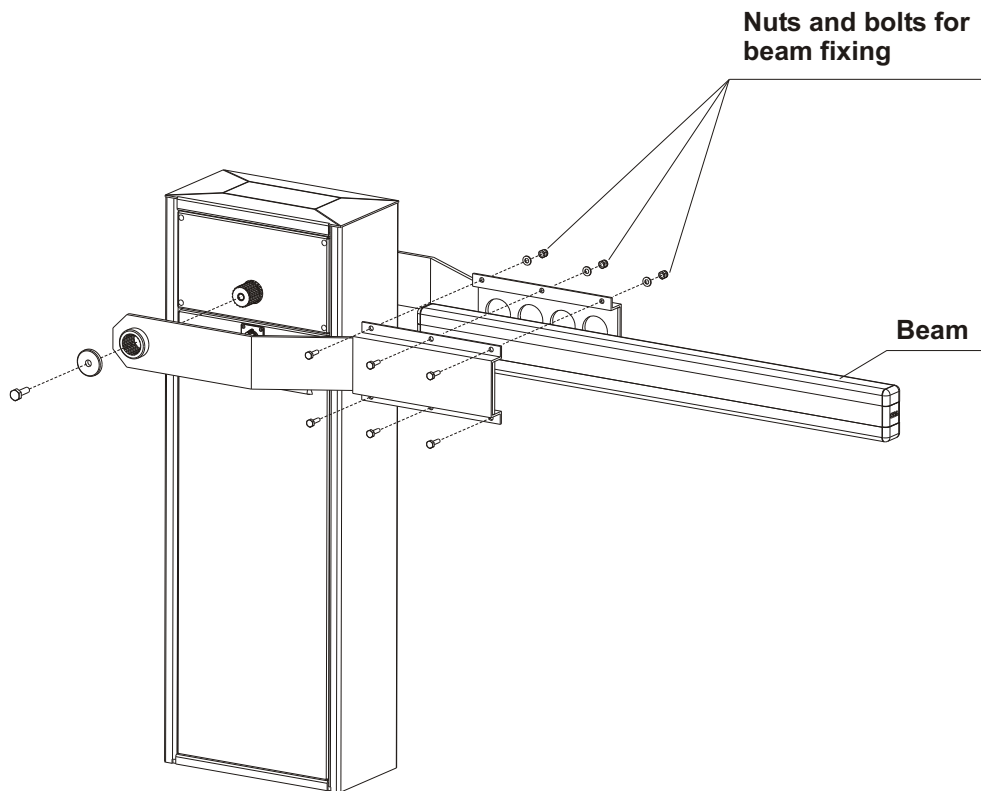

Fig. 9
5) Mounting of the central beam (Fig. 9)